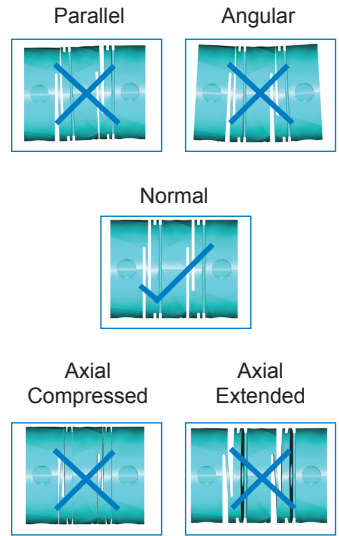

Fig. 5
4. Check that coupling misalignment is not excessive, (fig.5 overleaf).
1. Place a steel rule on one of the hubs of the Reli-a-Flex™ coupling. Use feeler gauges to determine the misalignment between the rule and the other hub. Fig. 5 shows a visual check on how the coupling should look after assembly.